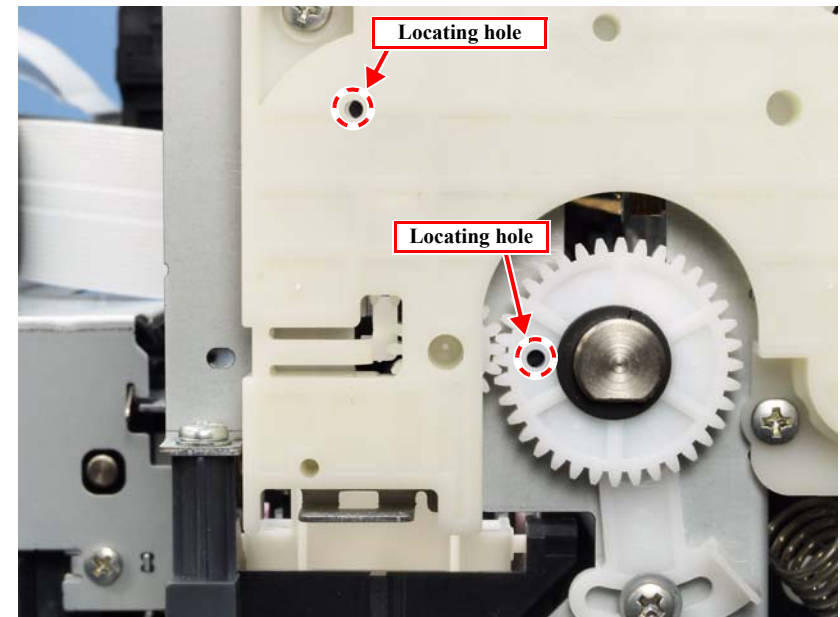

Figure 5-8. PG Position at PG Adjustment
3. Check that the APG Assy and the carriage are in the PG-position. (Fig. 5-8)